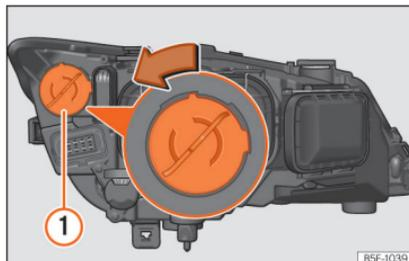

Fig. 108 Day light bulb.
- Turn the bulb holder »» Fig. 108 ① anti-clockwise and pull.